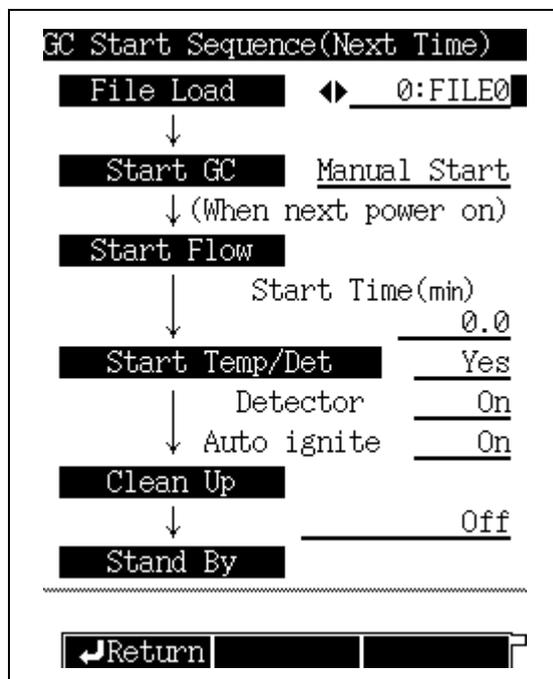

Fig. 21.6.1
- (1) Press the [SYSTEM] key, the toggle key, and the PF1 key, and change "Start GC" to "Manual Start" (refer to Fig. 21.6.1 or 21.6.2).